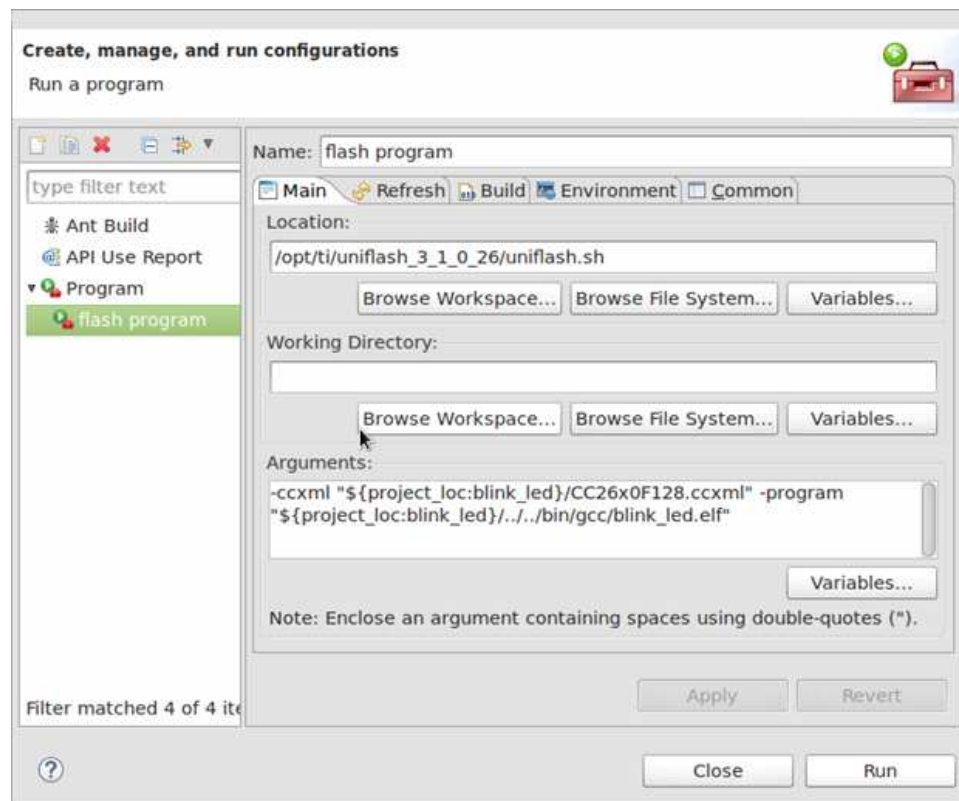

Figure 17. Configuring the Flash Programmer Tool (Linux)
6. Fill in the fields 'Name', 'Location' and 'Arguments' as shown in Figure 17.